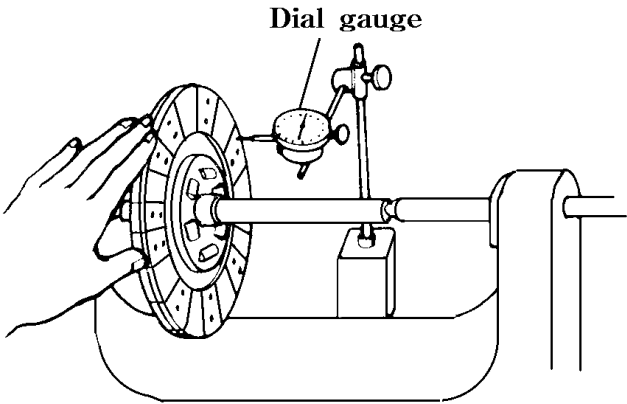

Fig.4-6
6) Measure the deviations of the clutch disc.If the measurements are beyond the usable limits, replace the clutch disc assembly.(Fig4-6)